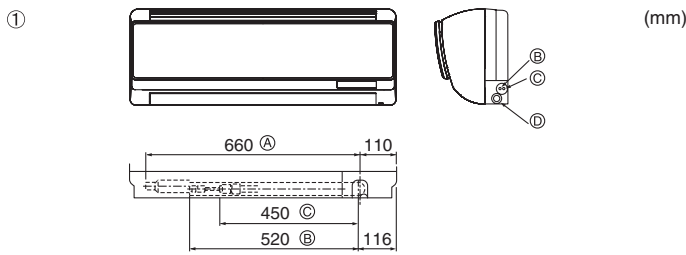
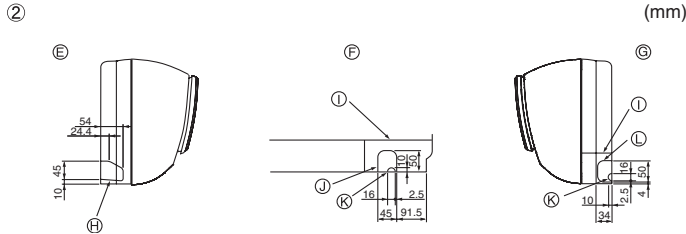

Fig. 4-2
Fig. 4-3
- ① Position of refrigerant and drain piping (Fig. 4-2)
- (A) Total length of flexible hose
- (B) Liquid pipe
- (C) Gas pipe
- (D) Drain hose
- ② Determine the position of the knockout holes on the unit body. (Fig. 4-3)